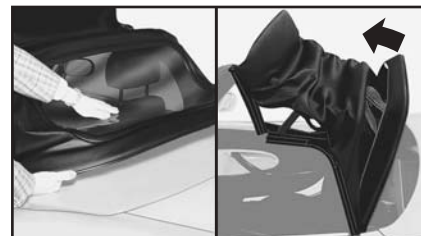

fig. 55
4) Working from the outside of the car on the driver's side, fold the hood back a little until you are able to raise the rear of the hood, as well. Make sure the rear window folds properly at the centre using the palm of your hand **fig. 55**.